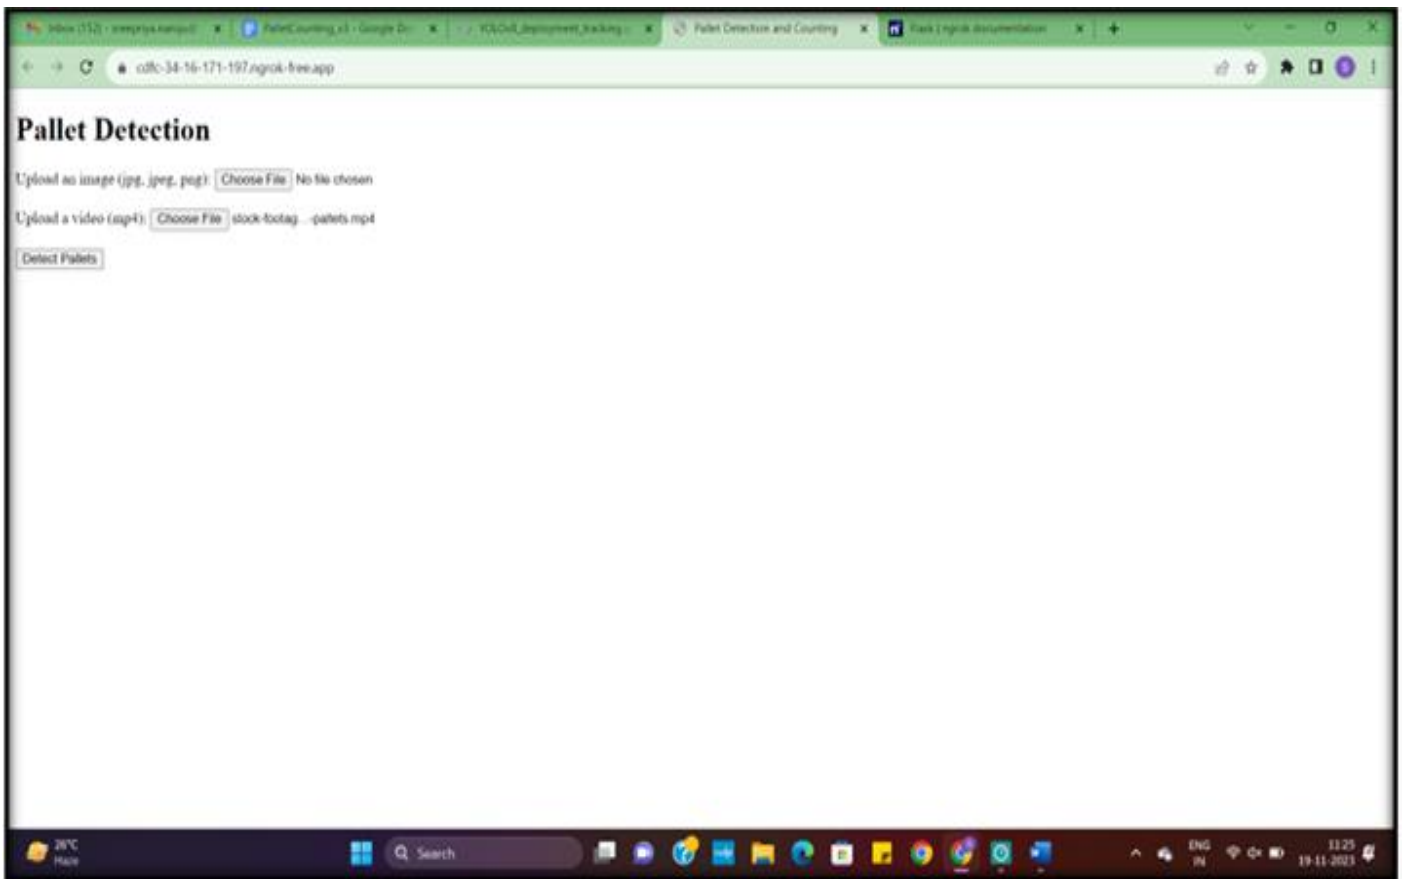

Fig 7 User Interface in Deployment
- The model is now given images or videos as input to perform object detection [Fig.7].